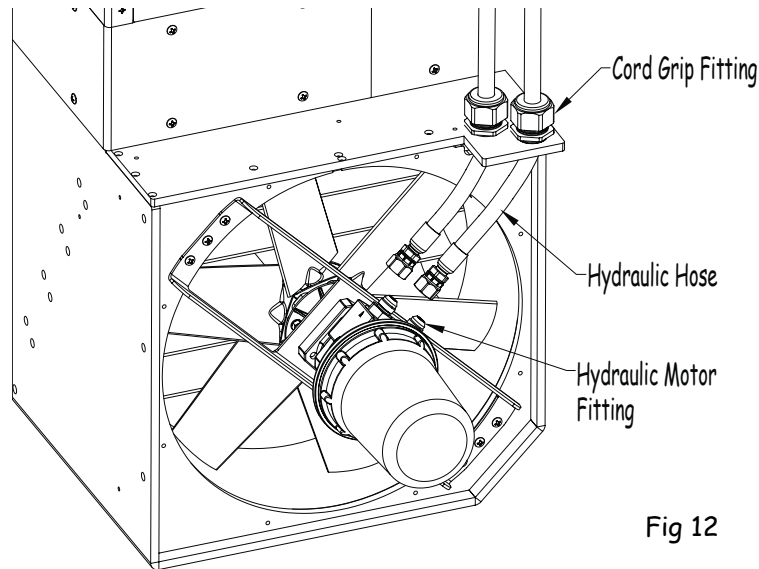

Fig 12
12. Position a plastic bag underneath the hydraulic motor. Place a few white paper towels into the bottom of the bag to help absorb the fluid that leaks out of the motor/hoses. Loosen the compression nuts on the cord grip fittings. Hold a paper towel around the hydraulic hoses and disconnect the hoses from the hydraulic motor fittings. Once removed, immediately **plug the hoses with the red plugs provided**. **Cap the fittings on the hydraulic motor with the steel caps provided** (Fig 12).